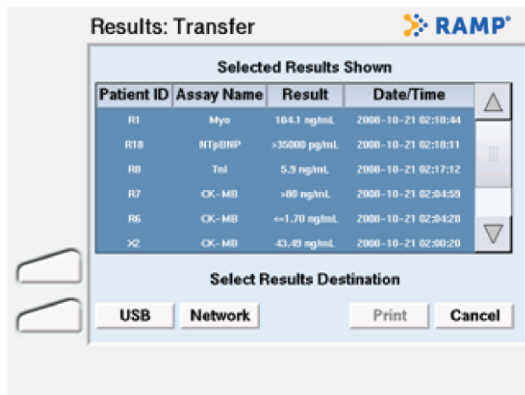

Figure 20 Results Transfer Confirmation Screen
- 3 Confirm the transfer by touching **Confirm**. Touch **Cancel** to abort the transfer (Figure 20).